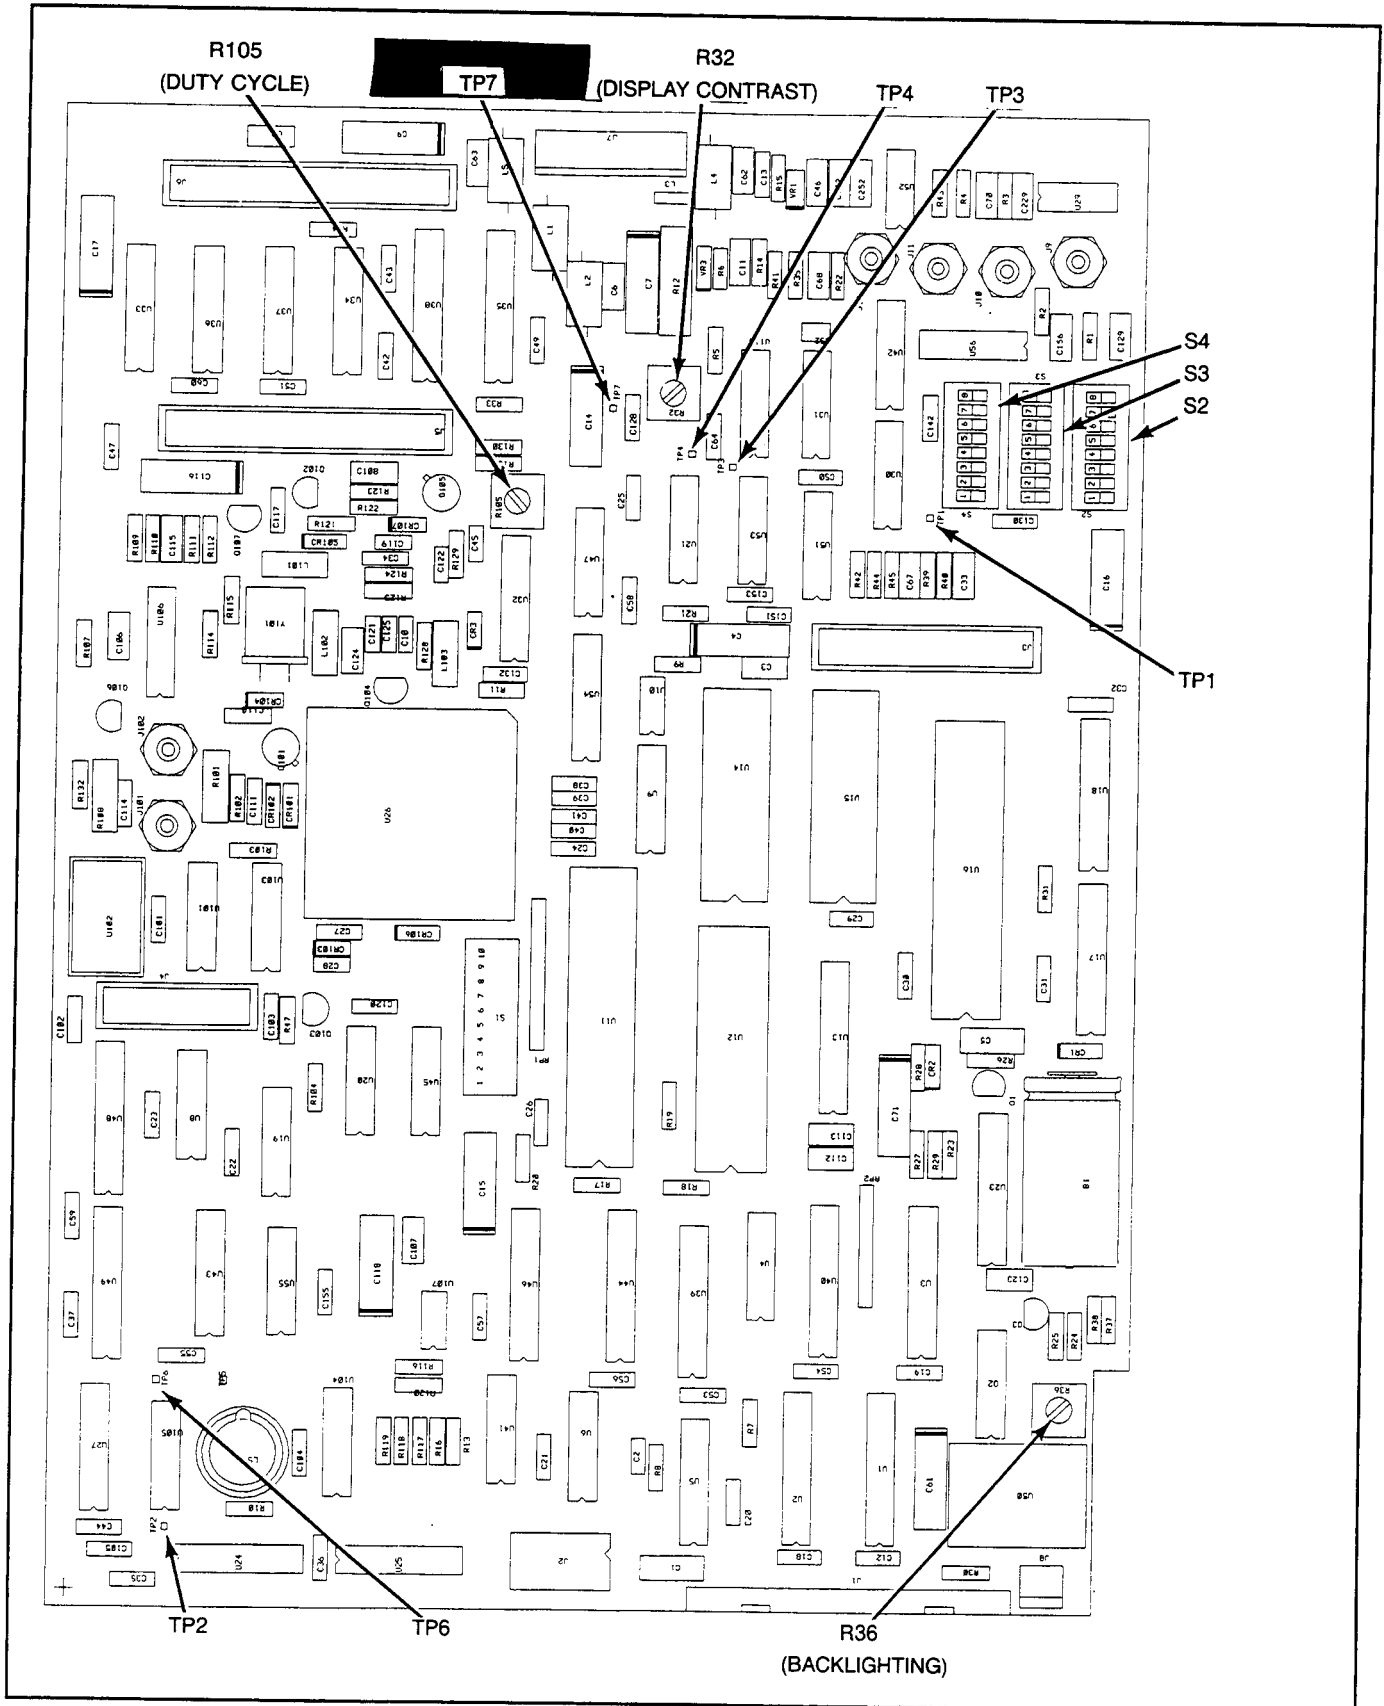

Figure 5-5B. Adjustment Locations for A2 (Serial Prefix 2948A and above)
- b. Connect test point A2TP1 to channel A of the dc coupled oscilloscope using a low-capacitance, divide-by-10 probe. (Refer to Figure 5-5B for A2 assembly component locations.)